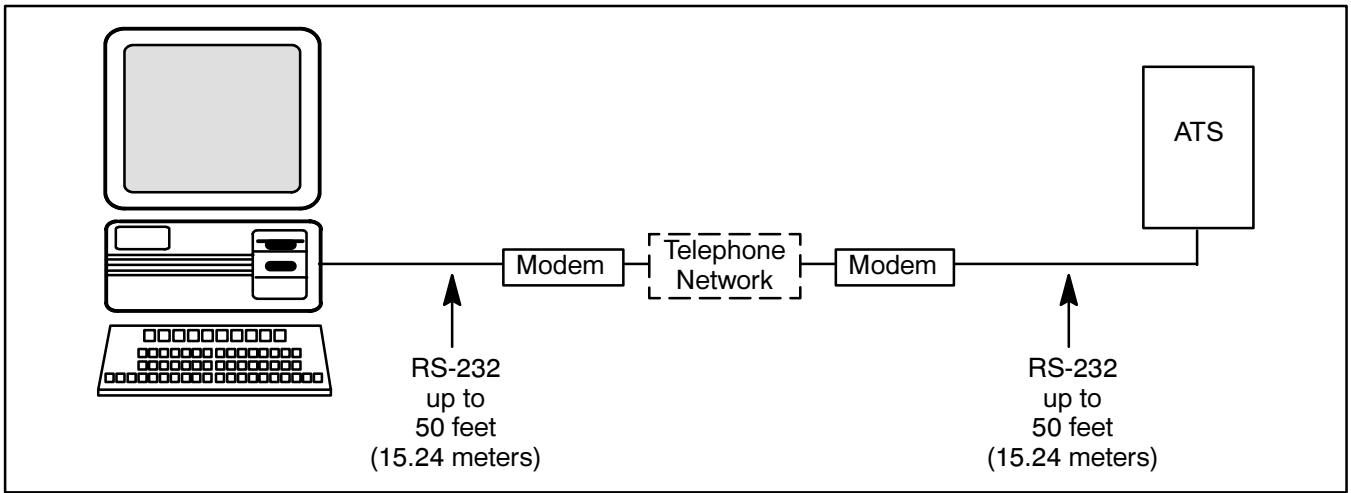

Figure 6-5. Remote Single Connection
3. **Remote Single Connection:** A personal computer is connected to a modem. The transfer switch controller is also connected to a modem. The computer communicates with the transfer switch controller via a telephone network. Because a telephone network is used, the computer can be located anywhere a telephone line can be accessed. See Figure 6-5.